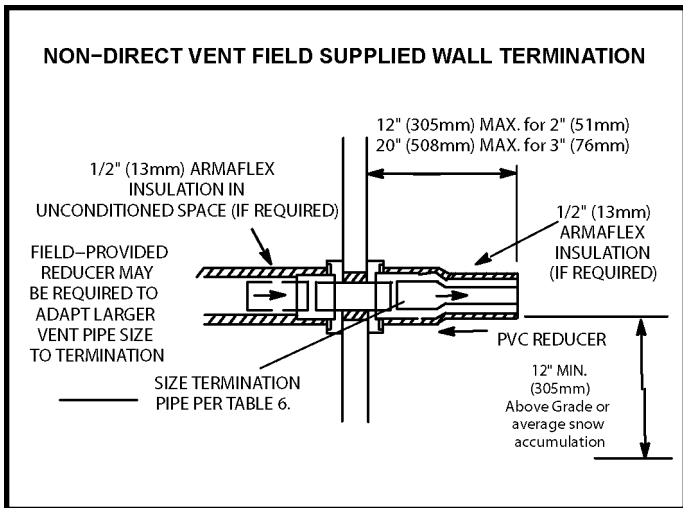

Figure 47
2. On field supplied terminations for side wall exit, exhaust piping may extend a maximum of 12 inches (305 mm) for 2" PVC and 20" (508 mm) for 3" (76 mm) PVC beyond the outside wall. See Figure 47.